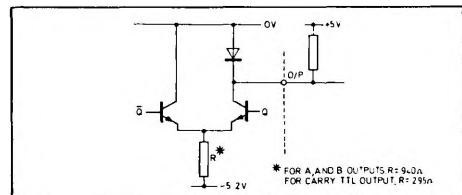

Fig.4 TTL output circuit diagram
3. These outputs are current sources which can be readily made TTL compatible voltages by connecting them to +5V via 10k Ω resistors (see Fig. 4).
The devices are intended to be used with TTL and ECL in a counting system — the ECL and the decade counter being connected between voltage rails of 0V and -5.2V and the TTL between voltage rails of 0V and +5V. Provided that this is done ECL and TTL compatibility is achieved. (See Figs. 4 and 5)